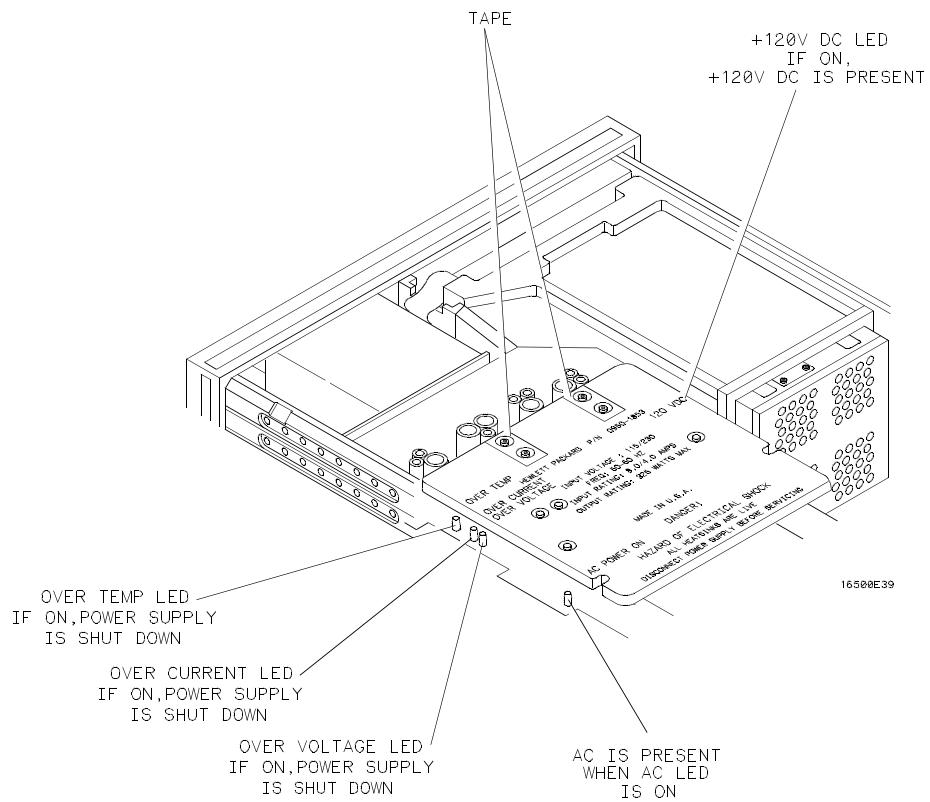

Figure 6-32. Power Supply Check
3. Using figure 6-32 as a reference, check the power supply LEDs.
*Tape is put over the power supply screws that are close to the top cover. If the tape is missing or damaged and the top cover is installed, the power supply might shut off. If the power shuts off after installing the top cover, check the tape on the power supply, shown in figure 6-32.*